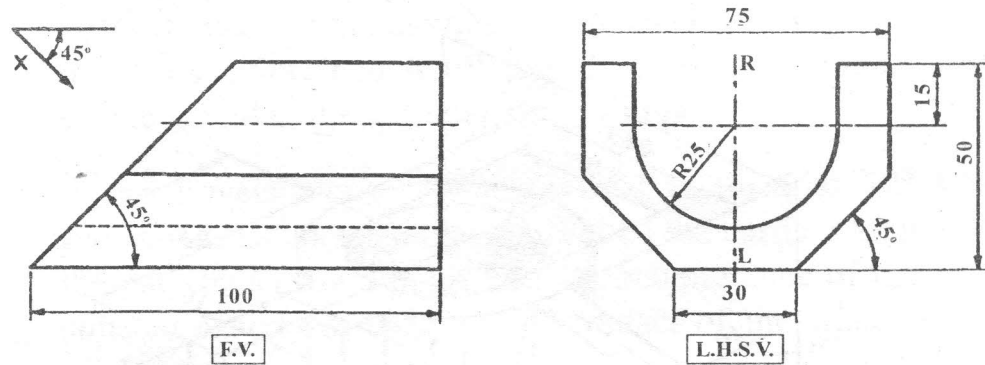

Fig. 4
- Q.6)** PIPE SUPPORT is shown in the **fig. 4** : Draw to full scale the following views : (1) Given Views (2) An Auxiliary View in the direction of X (3) Give all dimensions. [4+8+3=15]